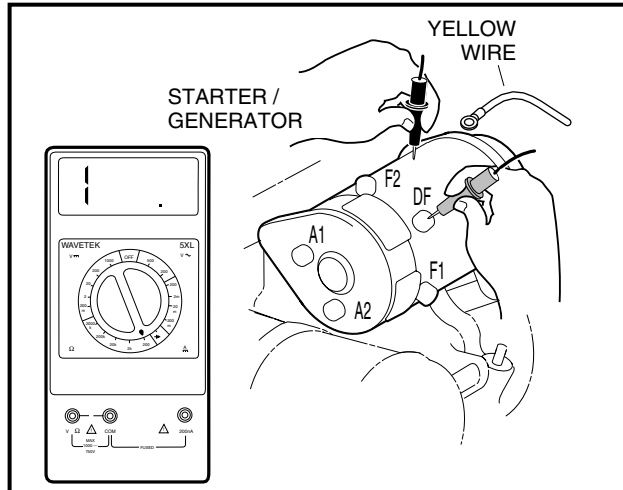

Figure 11-34 Check Starter Terminal Continuity
4. Disconnect the wires from all the terminals on the starter/generator. Then place the black (–) probe of a multimeter, set to  $\Omega$  (ohms), on the starter/generator housing (scratch through the finish to ensure a good ground). While holding the black probe against the housing, place the red (+) probe (one at a time) on the A1, A2, F1, F2 and DF terminals respectively (**Figure 11-34, Page 11-29**). The readings should be no continuity. If the readings are incorrect, the starter/generator will need to be removed from the vehicle and disassembled by a qualified technician. See **Starter/Generator Removal, Section 12, Page 12-1**.